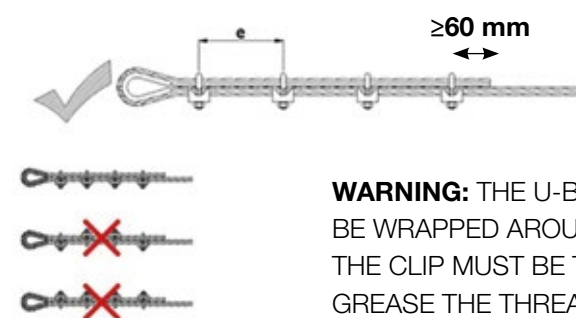

Figure 5.4 - Positioning cable with rope clips
- b) Position the 4 rope clips on the 8 mm diameter cable, taking care to ensure that the first rope clip is as close as possible to the thimble, so that the value of the distance between clips "e" is between 30 mm and 60 mm and in any case not less than 30 mm or greater than 60 mm (see **Figure 5.4**).